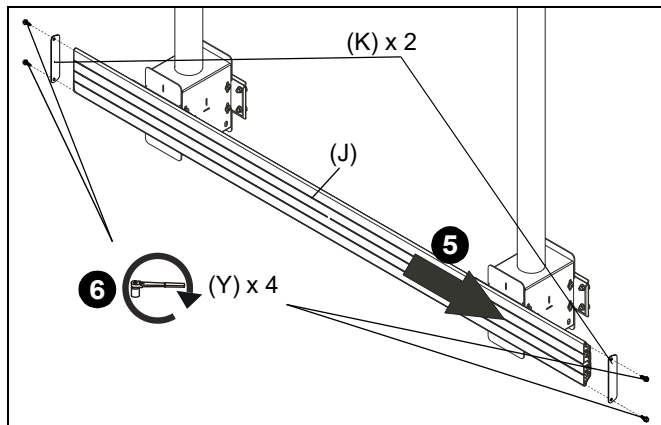

Figure 5
5. Slide 2 x 1 rail (J) onto second assembly (K) attached to column. (See Figure 5)
6. Use four 1/4 x 3/4" hex flange bolts (Y) to secure two side covers (K) to ends of rail (J). (See Figure 5)